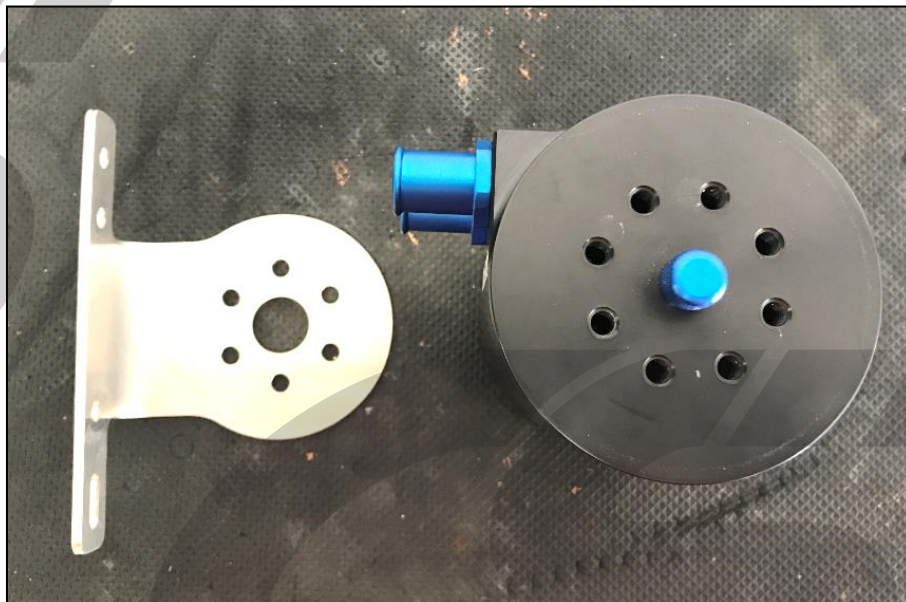

Figure 2a
d) **Locate hardware for installation.** Locate the 35mm long M6 bolts and the large outer diameter M6 washers. Install the washer onto the bolts as shown in **Figure 2a**.